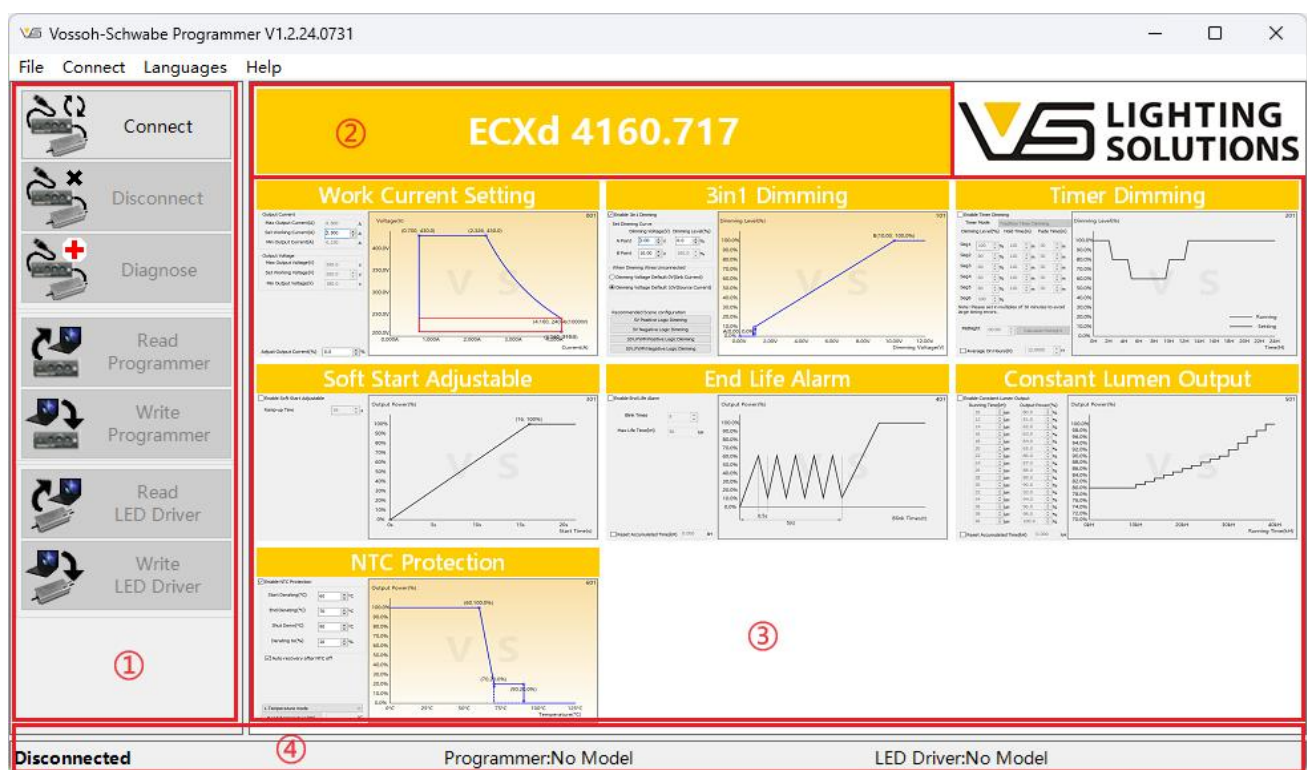

Figure 3
(1) Connect, Read LED Driver and Write LED Driver, as shown in Figure 3, at position ① in the block diagram.
Default Values", as shown in Figure 3, click the position ② of the block diagram with the left mouse button, and select the corresponding model.
(2) Modify the data, such as "Work Current Setting", "3in1 Dimming", "Timer Dimming", etc., as shown in Figure 3, at position ③ in the block diagram.
(3) When "Writing LED Driver", please make sure that the selected model is the same as the connected LED driver model (as shown in Figure 3, position ④ in the block diagram), otherwise Programmer will refuse to program and report an error.
The model written in Programmer must be the same as the LED driver model to write successfully, otherwise Programmer will report an error. Check whether the models are the same, as shown in Figure 3, block diagram position ④).